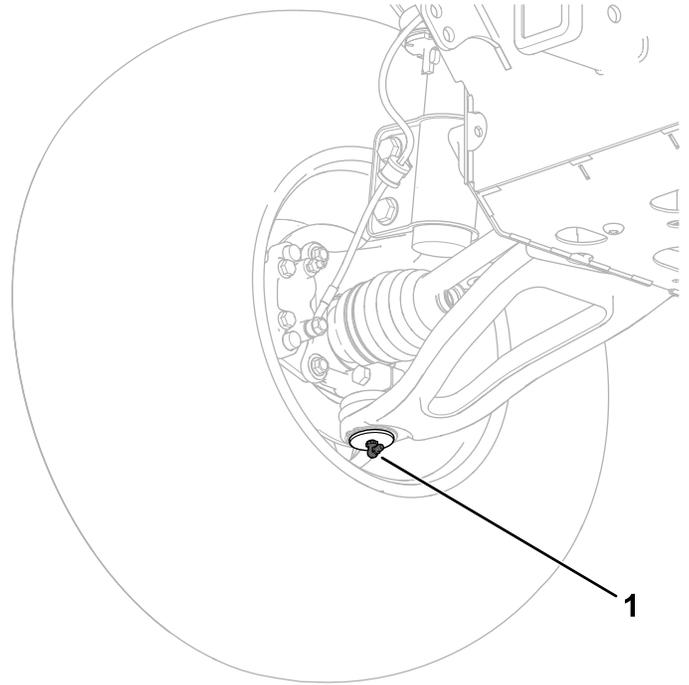

Figure 25
- **Ball joints (2);** refer to Figure 25